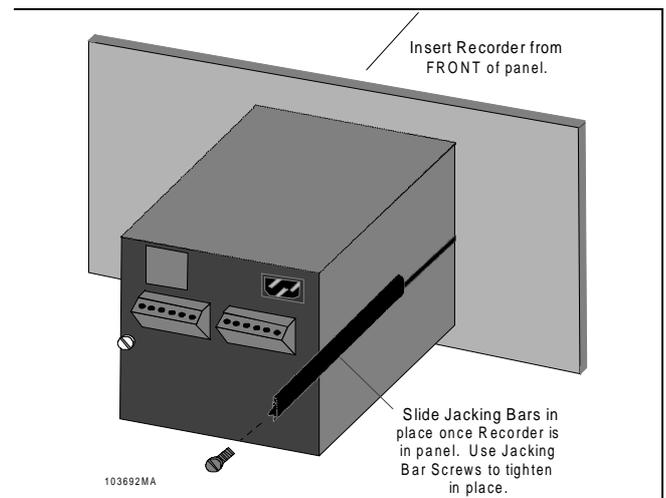

Figure 2-3 Mounting in Panel
F. With the Recorder held firmly in place against the panel, install one of the Jacking Bars, by locating the circular end of the retaining rib in the center of the Jacking Bar, into the slot on the side of the Recorder Panel. Refer to Figures 2-3 and 2-3A for detail.